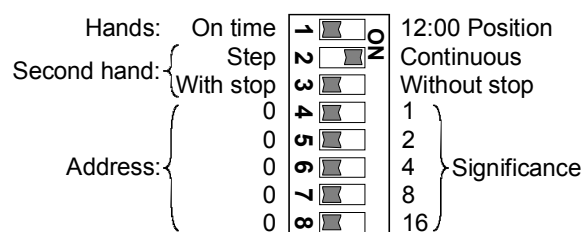

Fig. 5
- Set DIP switch 1 to **ON** position (12:00 Position, Fig. 5)
- After checking the 12 o'clock position, reset DIP-Switch 1 to OFF position Fig. 5).